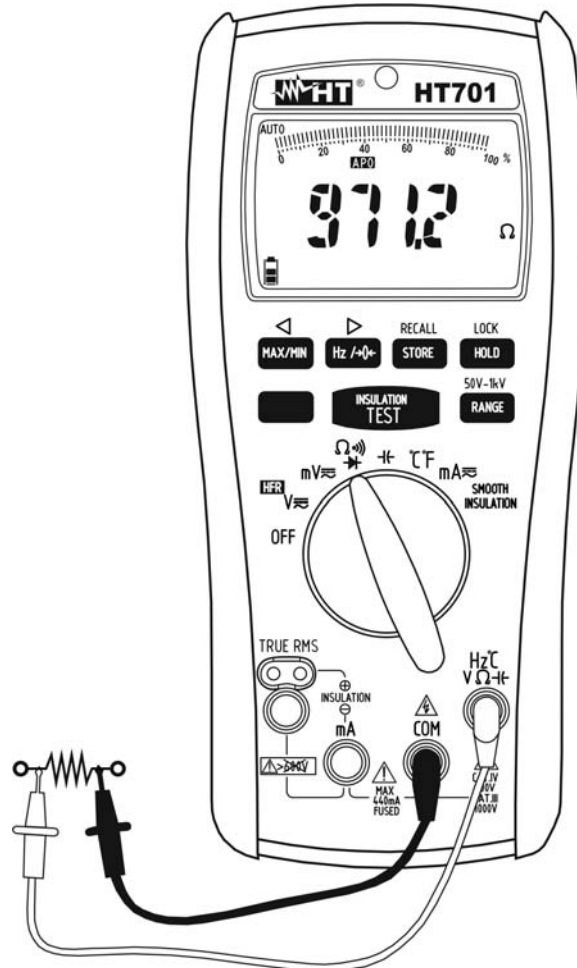

Fig. 6: Use of the instrument for resistance measurement and continuity test
5. Position the test leads in the desired points of the circuit to be measured (see Fig. 6). The display shows the value of resistance